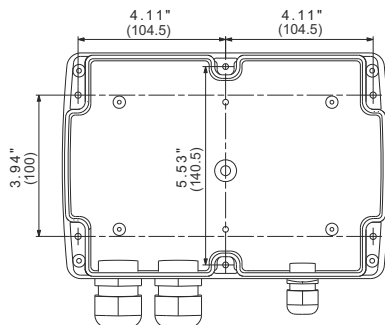

Fig. 1 Dimensions
The box has six mounting holes (∅4). See fig. 1. The dimensions are in mm.
- Horizontally to allow condensed water, if any, to escape. See fig. 1.